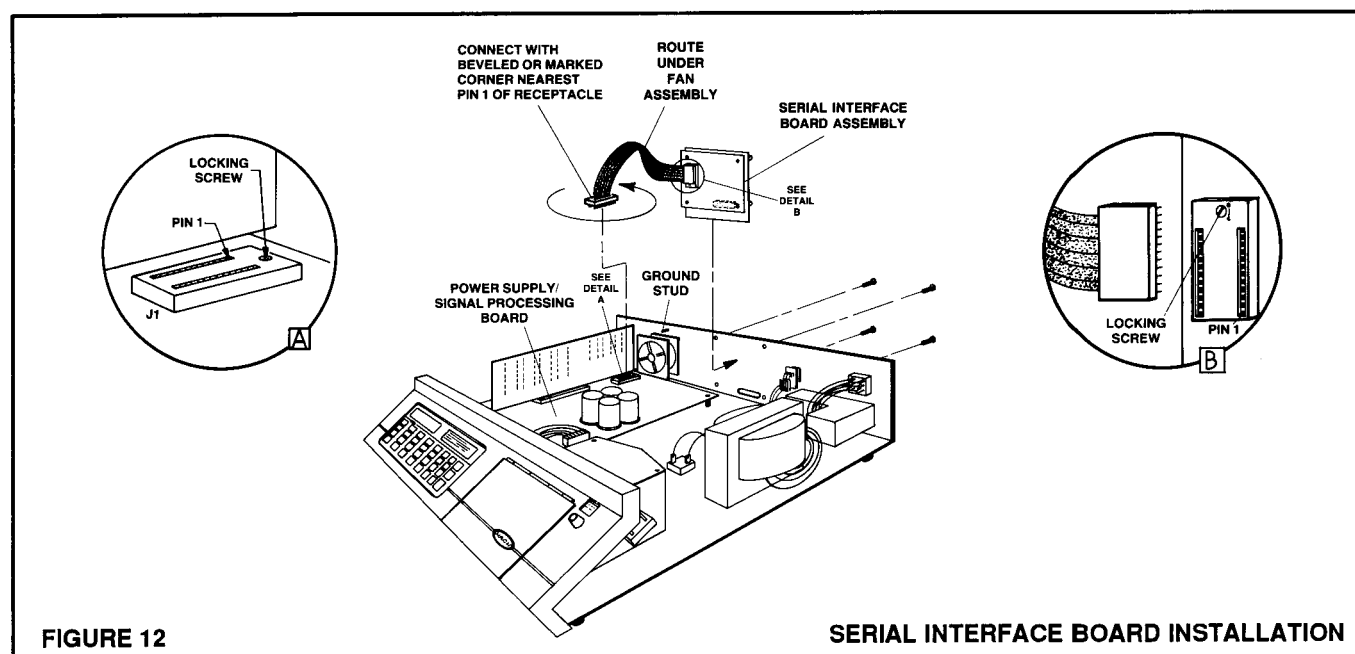

FIGURE 12
8. Connect the I/O cable between the circuit board connector of the serial interface board and the spectrophotometer power supply/signal processing board *as shown in Figure 12 below*. Orient the cable connectors as illustrated in details A (power supply/signal processing board connection) and B (serial interface board connection). Note that the wires from the serial interface connector exit from the side nearest the edge of the board. The board connectors have locking devices that are operated with a small screwdriver or trimpot tool. Turn fully counterclockwise to unlock and fully clockwise to lock after the connectors are mated.